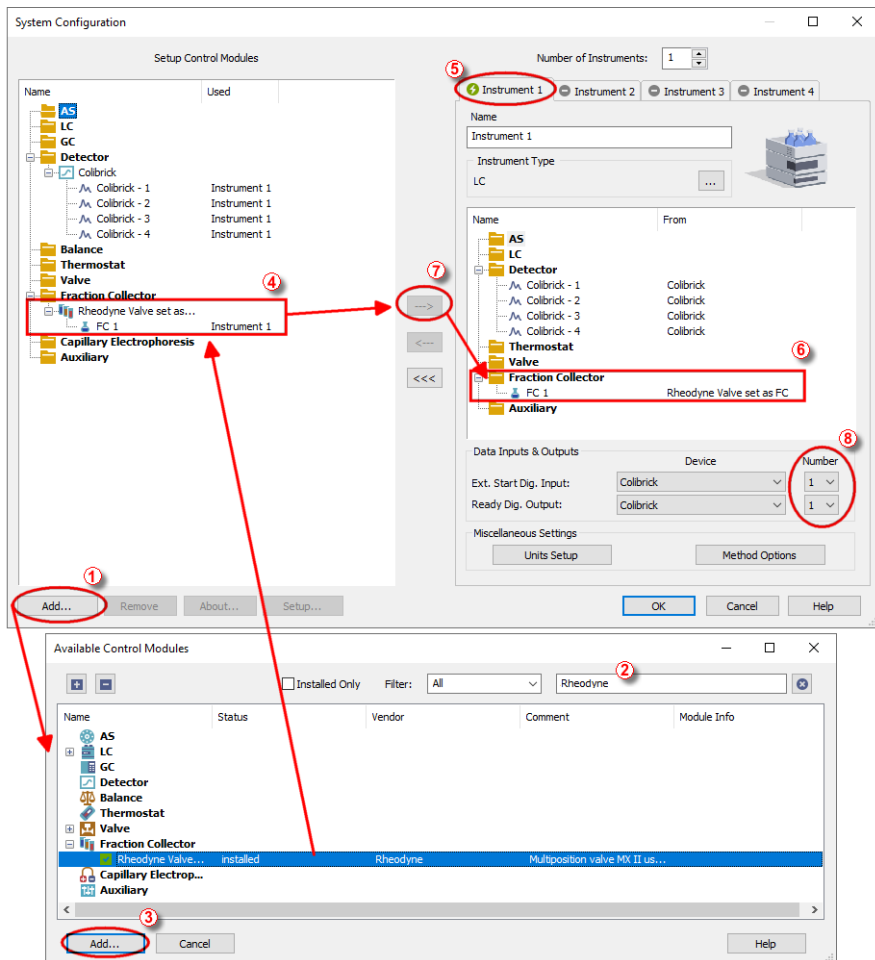

Fig 2: How to add FC by Rheodyne Valve
- Press the **Add** button (1) on Fig 2 on pg 4.) to invoke the **Available Control Modules** dialog.
- You can specify the search filter (2) to simplify the finding of the driver.
- Select the correct item and press the **Add** (③ on **Fig 2** on pg 4.) button. Each device with already created UNI profile should have its own item named accordingly in the **Available Control Modules** dialog.